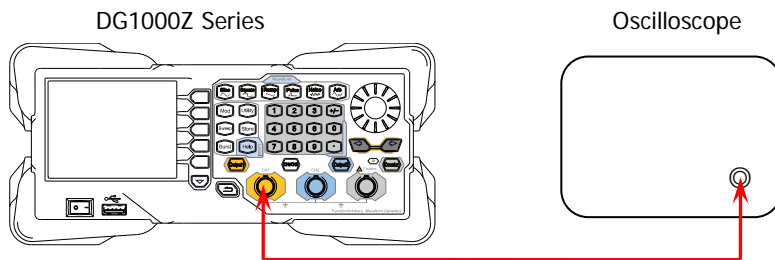

Figure 2-5 Connect DG1000Z and the Oscilloscope
1. Make sure that the environment temperature is between 18°C and 28°C and DG1000Z has been warmed up for at least 30 minutes. Connect the channel output terminal (take CH1 as an example; the test method is also applicable to CH2) of DG1000Z with the signal input terminal of the oscilloscope using a dual-BNC connecting cable as shown in Figure 2-5.
- Make sure that the environment temperature is between 18°C and 28°C and DG1000Z has been warmed up for at least 30 minutes. Connect the channel output terminal (take CH1 as an example; the test method is also applicable to CH2) of DG1000Z with the signal input terminal of the oscilloscope using a dual-BNC connecting cable as shown in Figure 2-5.